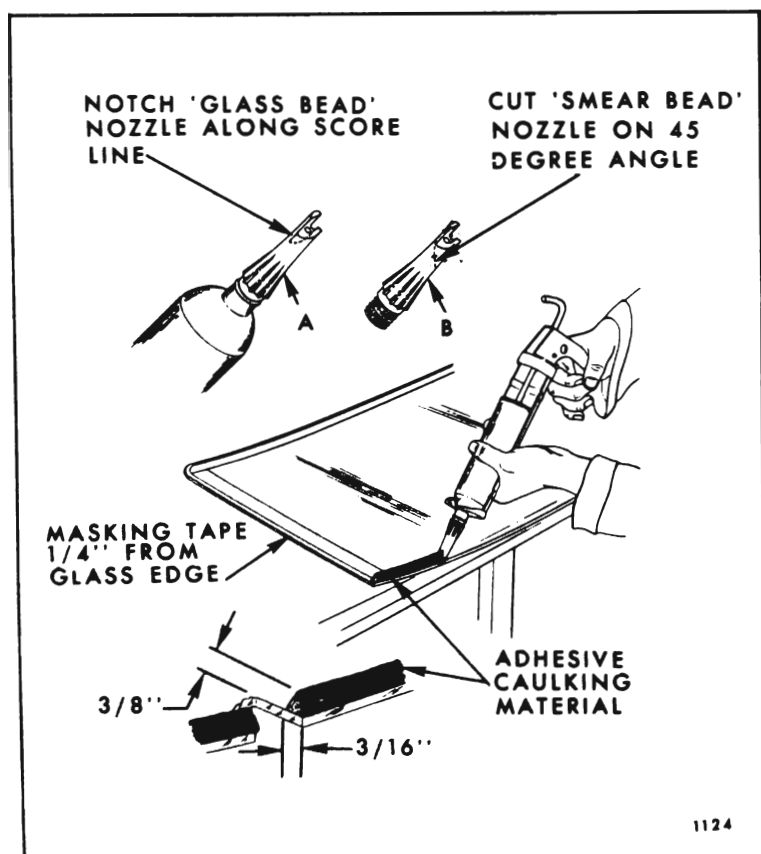

Fig. 3-12—Adhesive Caulking Installation - Extended Method
8. Cut off tip of one nozzle along score line (Fig. 3-12). This "glass bead" nozzle will be used to apply bead of adhesive caulking material to glass. Cut tip off other nozzle at  $45^\circ$  angle 1" below end of nozzle (Fig. 3-12). This nozzle will be used to apply "smear bead" of adhesive caulking material to pinchweld flange.
11. Positioning the gun and nozzle as shown in Figure 3-12 carefully apply a smooth continuous bead of caulking material  $3/8$ " high by  $3/16$ " wide at base completely around inside edge of glass. When material in first tube is dispensed, quickly insert second tube and continue application of bead. After application, check bead and fill all voids and air bubbles.